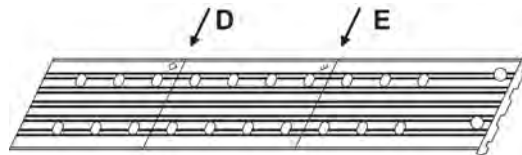

FIGURE 28 :ADJUSTABLE SHOE CUT LOCATION (CUT WHEN REQUIRED)
X. Reference the ceiling height you recorded in Section V and determine the location to cut the attic ladder side rails and adjustable shoes for your ceiling height. See **Table 4** and **Figure 27** and **Figure 28**.
Installer #1: Cut the ladder side rails and adjustable shoes at the appropriate location. See **Figure 27** and **Figure 28**. Be careful of sharp edges after making the cuts.